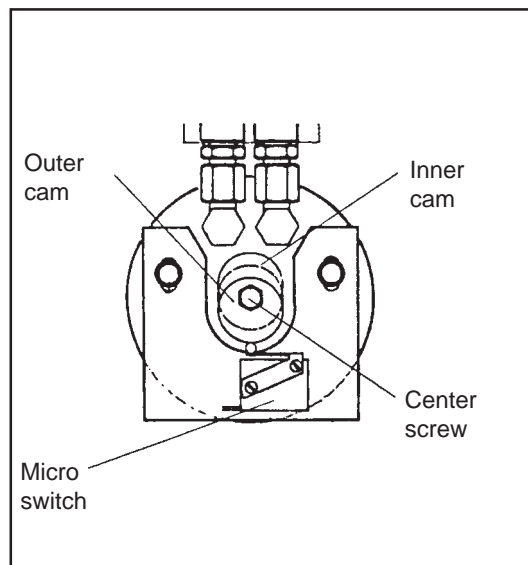

Figure 4.
- loosen the control cam center screw, see figure 4
- loosen the center screw of the control cams, see figure 4